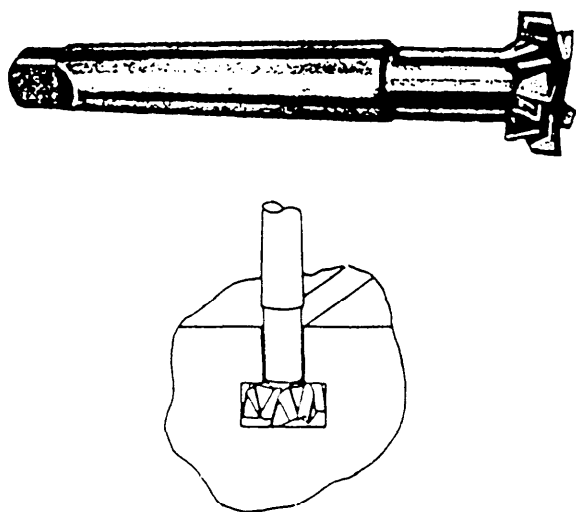

Figure 7-37.—T-slot cutter.
**T-SLOT CUTTER.**—The T-slot cutter (fig. 7-37) is a small plain milling cutter with a shank. It is